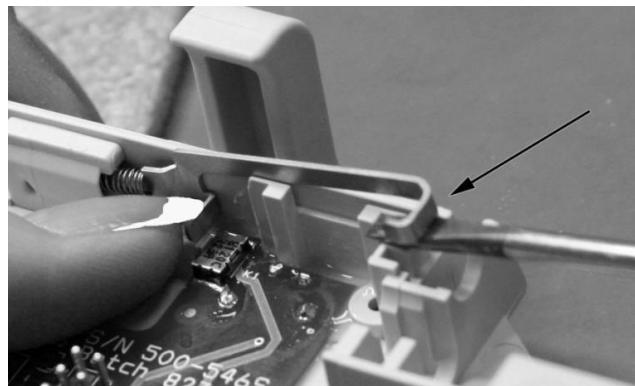

Figure 6-40. Collar Sensor (400-005S) with Spring Locker (250-012X) (Left) – Removal of Collar Sensor (Right)
- f. Insert the collar sensor and spring locker unit in place. First insert the collar sensor into the spring (see Figure 6-40). Then insert the spring part into its cavity in the housing wall (a). Finally, insert the collar sensor into its place adjacent to the housing wall (b). Whilst doing so, **take care not to harm the button of the sensor on the PCB** (c).